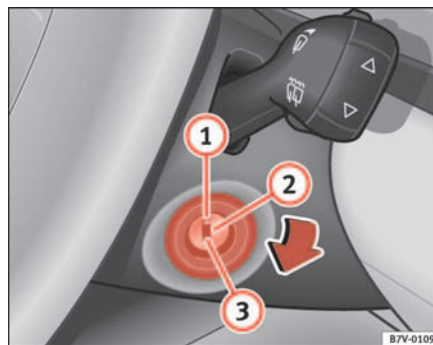

Fig. 126 Ignition key positions
In position ⇒ fig. 126 ① the ignition is switched off, and the steering wheel lock can be engaged.
- Turn the ignition key to position ⇒ page 161, fig. 126  to start the engine.
- Turn the ignition key to position ⇒ page 161, fig. 126 ②. The warning lamp  lights up to show that the glow plugs are preheating the engine.
- When the warning lamp goes out, turn the key to position ③ to start the engine. Do not press the accelerator.
- Turn the ignition key to position ⇒ page 161, fig. 126 ①. ▶